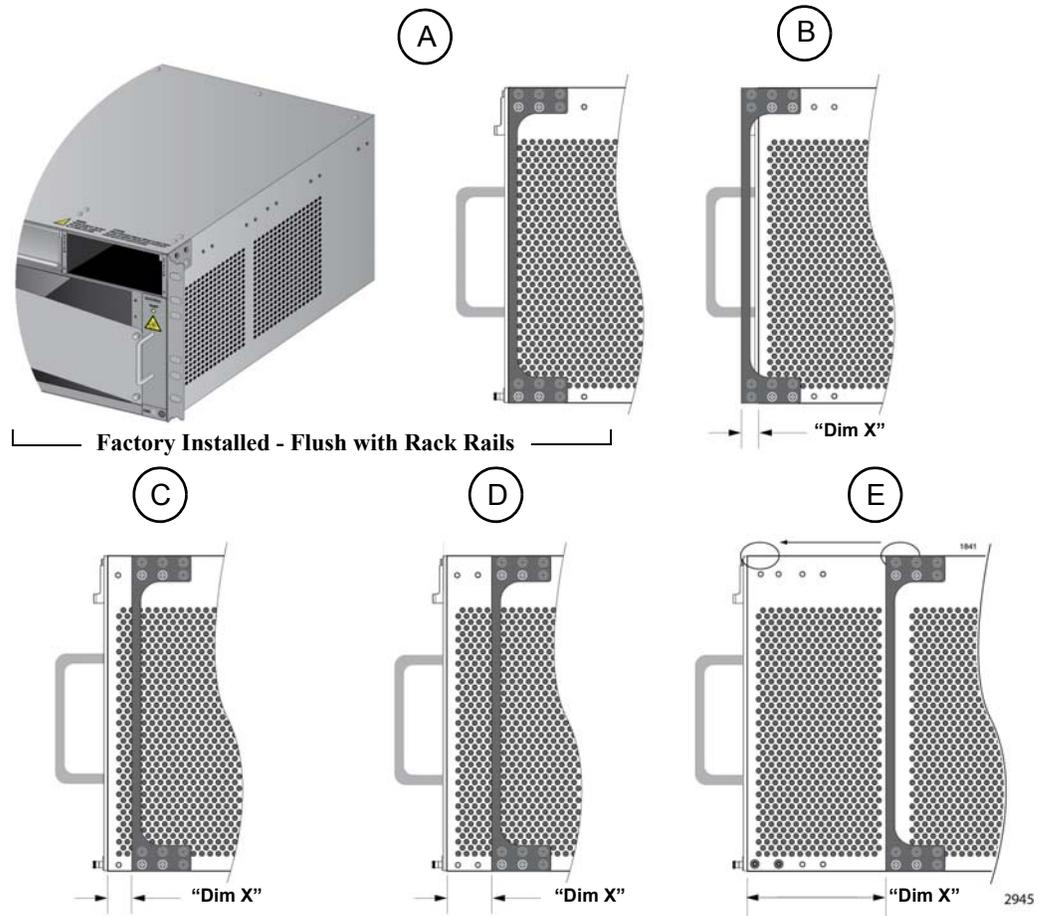
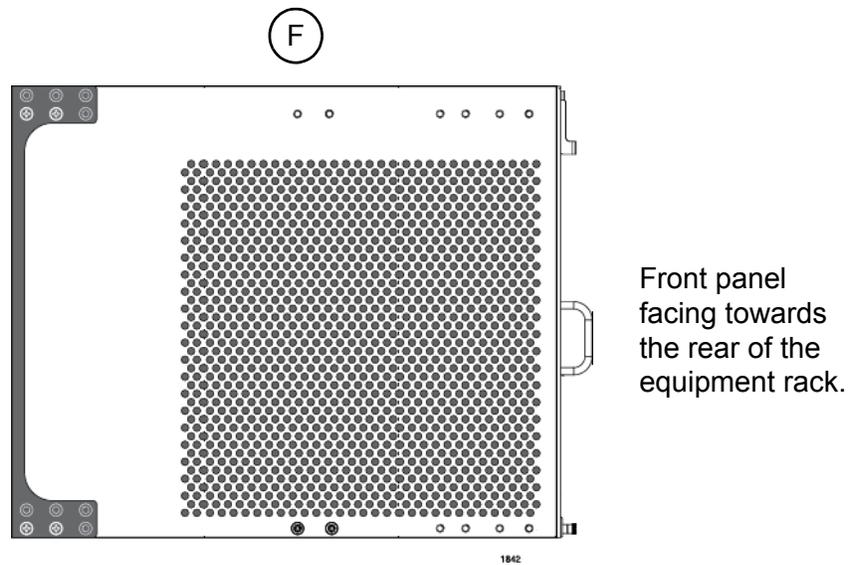

Figure 35. Rack Mounting Bracket Locations
Figure 36. Rack Bracket Locations for Reverse Position of Chassis
You adjust the brackets by removing them and re-installing them in different positions on the sides of the chassis. The bracket positions are listed in Table 20 and illustrated in Figure 35 on page 81 and Figure 36 on page 81. Please review the following information before moving the brackets:
- To install the rack mount brackets in position “E,” you have to remove the two chassis screws from the bottom-middle section of the chassis and re-install them in front where the rack mount bracket screws were originally, as shown in Figure 35 on page 81.
- The dimension (X) between the front panel and the rack rails is given for each rack mounting bracket position in Table 20.